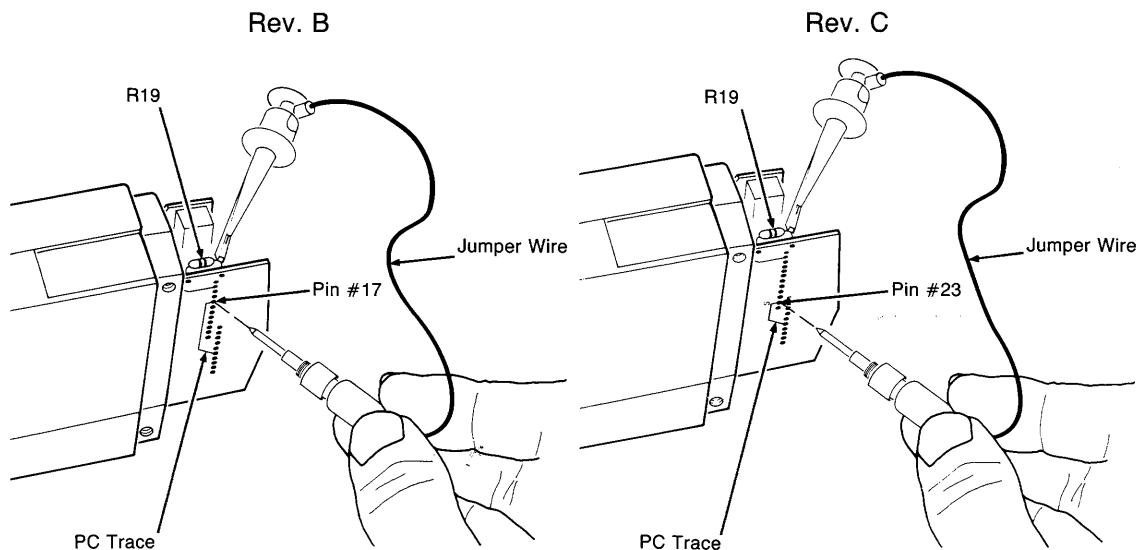

Figure 4-2. Jumper placement for a synchronizing reset
THE CLOCK CHIP MAY BE DAMAGED IF THE SYNCHRONIZING RESET IS NOT DONE PROPERLY. IF YOU NEED TO PERFORM THIS STEP, STUDY FIGURE 4-2 CLOSELY AND PROCEED VERY CAREFULLY. DO NOT PERFORM THE SYNCHRONIZING RESET UNLESS IT IS NECESSARY.
- 6A. If a synchronizing reset is necessary, you should very briefly touch +5 volts to the synchronizing pin of the clock chip (U15). Refer to Figure 4-2 above. Get a jumper wire or test lead with a miniature clip on one end. Attach the clip to the lead of R19 that is closest to the upper corner of the processor board. Then **very briefly** touch the other end of the jumper wire to the synchronizing pin of U15. To locate this pin, it is very important to **note the revision letter** of the processor board. **Rev-A and Rev-B** boards (left-hand drawing) use **pin #17**, identified by the vertical trace running to it on the circuit side of the PC board. **Rev-C and Rev-D** boards (right-hand drawing) use **pin #23**, identified by the “S” placed by it on the circuit side of the PC board. Do not attach the wire to U15; do not hold the wire on U15; and do not touch the wire to any other pin except the proper synchronizing pin. After you have applied a brief pulse to the proper pin, remove the jumper wire from R19.